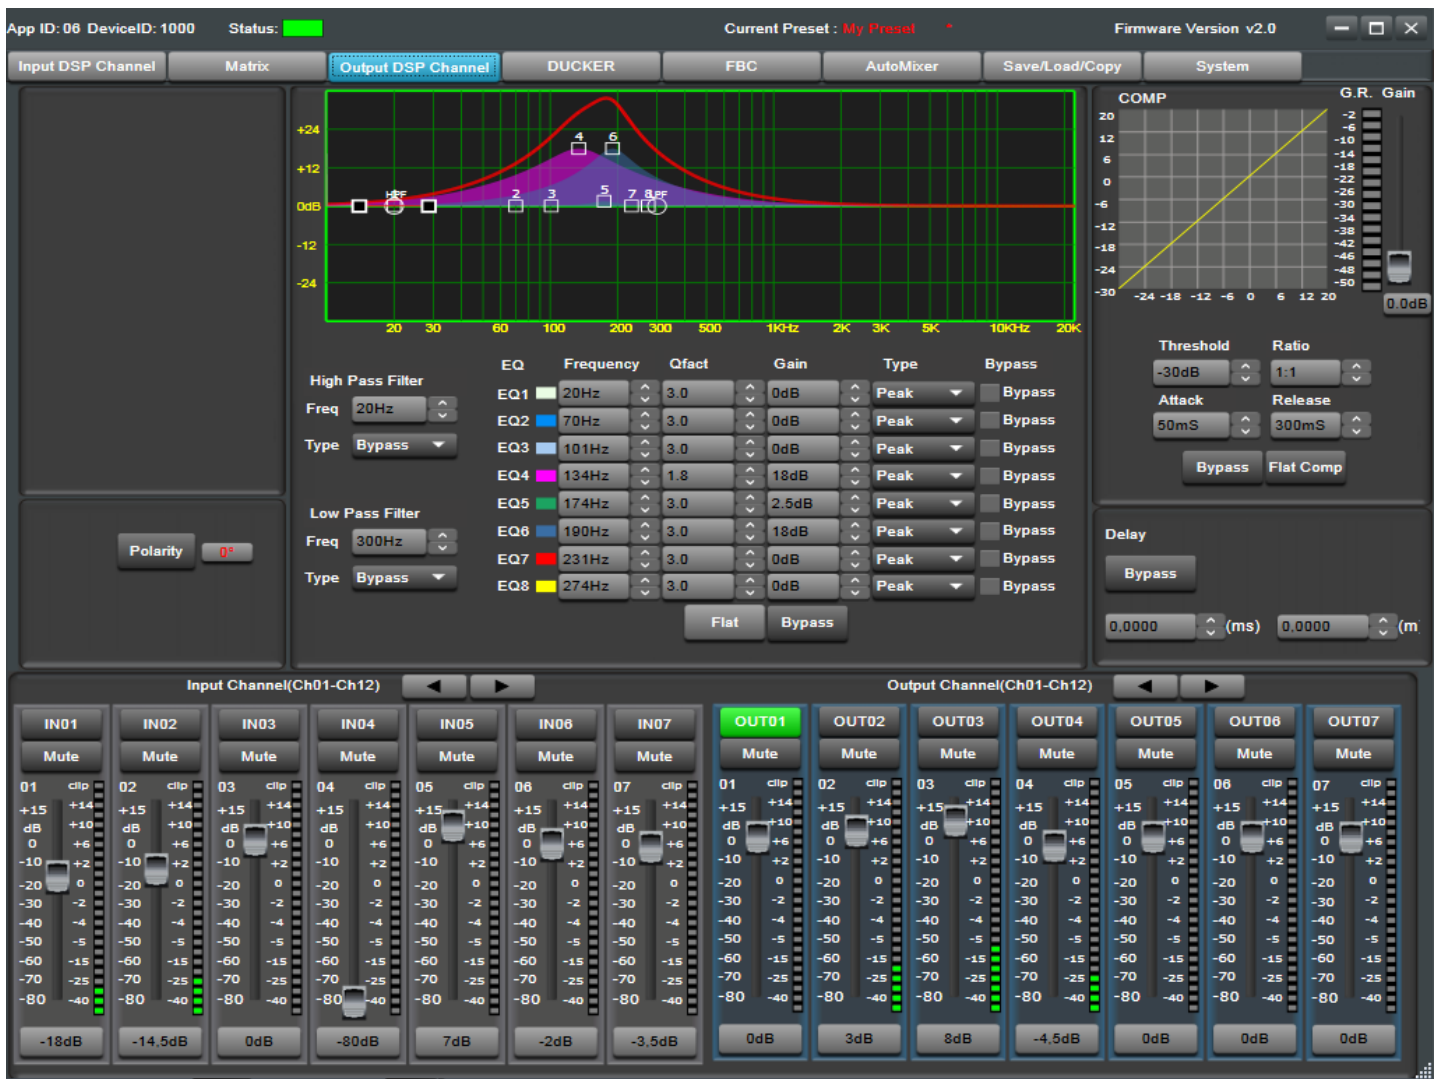

Fig. 22 View "Output DSP Channel"
7.8 View "Output DSP Channel" (fig. 22)